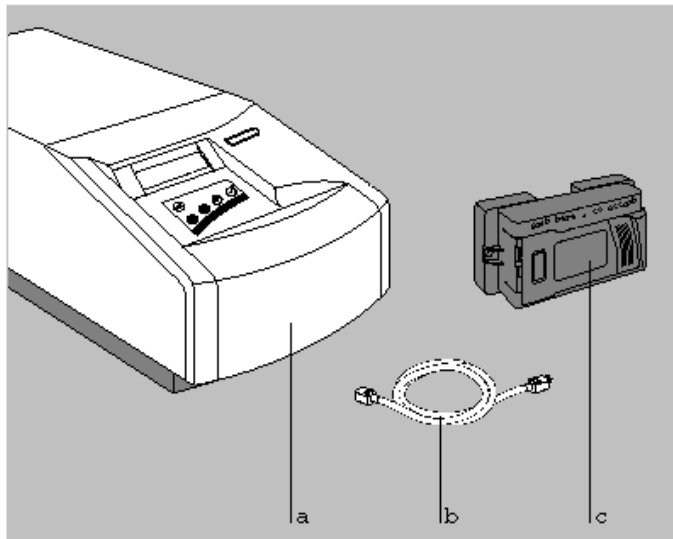

Figure 2-1 ProPalette 7000 components
- Recorder (**a** in Figure 2-1)
- Power cord (**b** in Figure 2-1)
- 35mm camera back (**c** in Figure 2-1); comes mounted on recorder